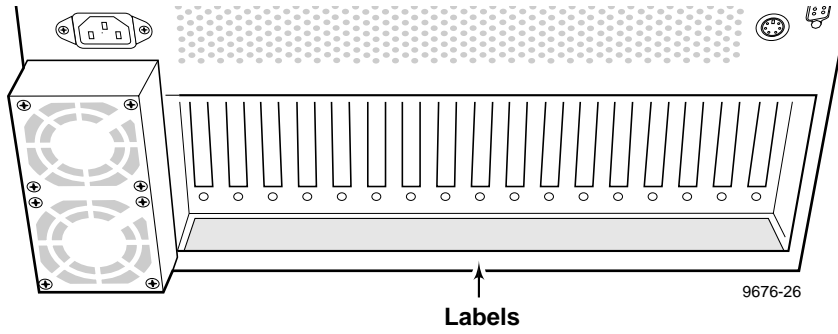

Figure 7. Stick-on label location
1. Apply stick-on labels on the Profile chassis rear panel to help identify all new board locations (see Figure 7).